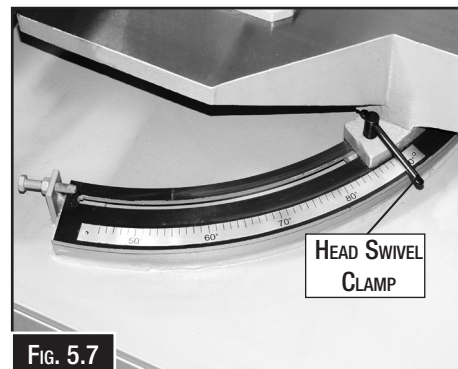

Fig. 5.7
3. Release the swivel lock clamp with the handle. (Fig. 5.7)